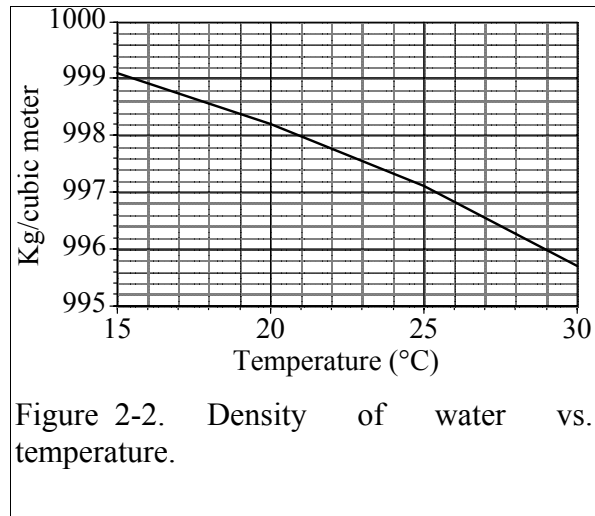

Figure 2-2. Density of water vs. temperature.
- 1) Use Figure 2-2 to estimate the mass of 990 μL of distilled water (at the measured temperature).
- 2) Use a 100-1000 μL digital pipette to transfer 990 μL of distilled water to a tared weighing boat on the 100 g scale. Record the mass of the water and compare with the expected value (Figure 2-2). Repeat this step if necessary until your pipetting error is less than 2%, then measure the mass of 5 replicate 990 μL pipette samples. Calculate the mean (\bar{x} defined in equation 2.7), standard deviation (s defined in equation 2.8), and coefficient of variation, s/\bar{x} , for your measurements. The coefficient of variation (c.v.) is a good measure of the precision of your technique. For this test a c.v. < 1% should be achievable.